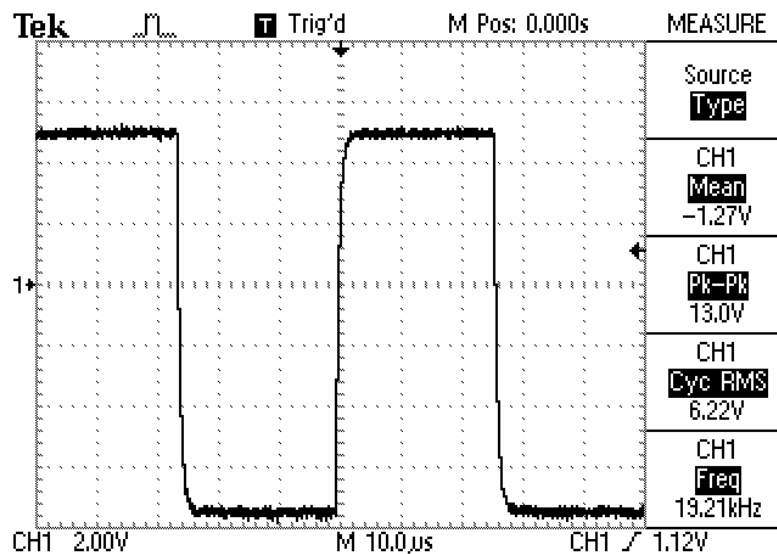

Figure 13: Oscilloscope Display of 20 kHz Square Wave
19. [] Verify that the output is a square wave of approximately 20 kHz at approximately 13V Pk-Pk as shown in Figure 13.